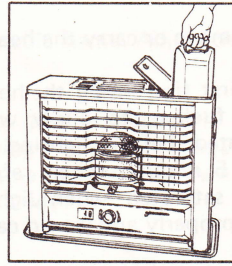
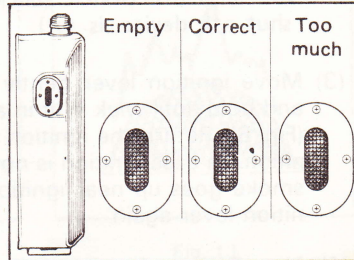

Fig. 3
Fig. 4
- (1) Shut off the heater. Do not refuel while burning.
- (2) Pull out the cartridge tank and refuel. (Fig. 3)
- (3) Use either a siphon or a funnel to fill the tank.
- (4) Watch the fuel gauge when fueling.
- (5) Stop filling when the fuel level reaches the center of the fuel gauge. (Fig. 4)
- (6) Tighten the filler cap firmly.
- (7) Reset the cartridge tank in the stove. Improper seating will not allow the tank cover to close.
- (8) Wipe off any kerosene overflow.